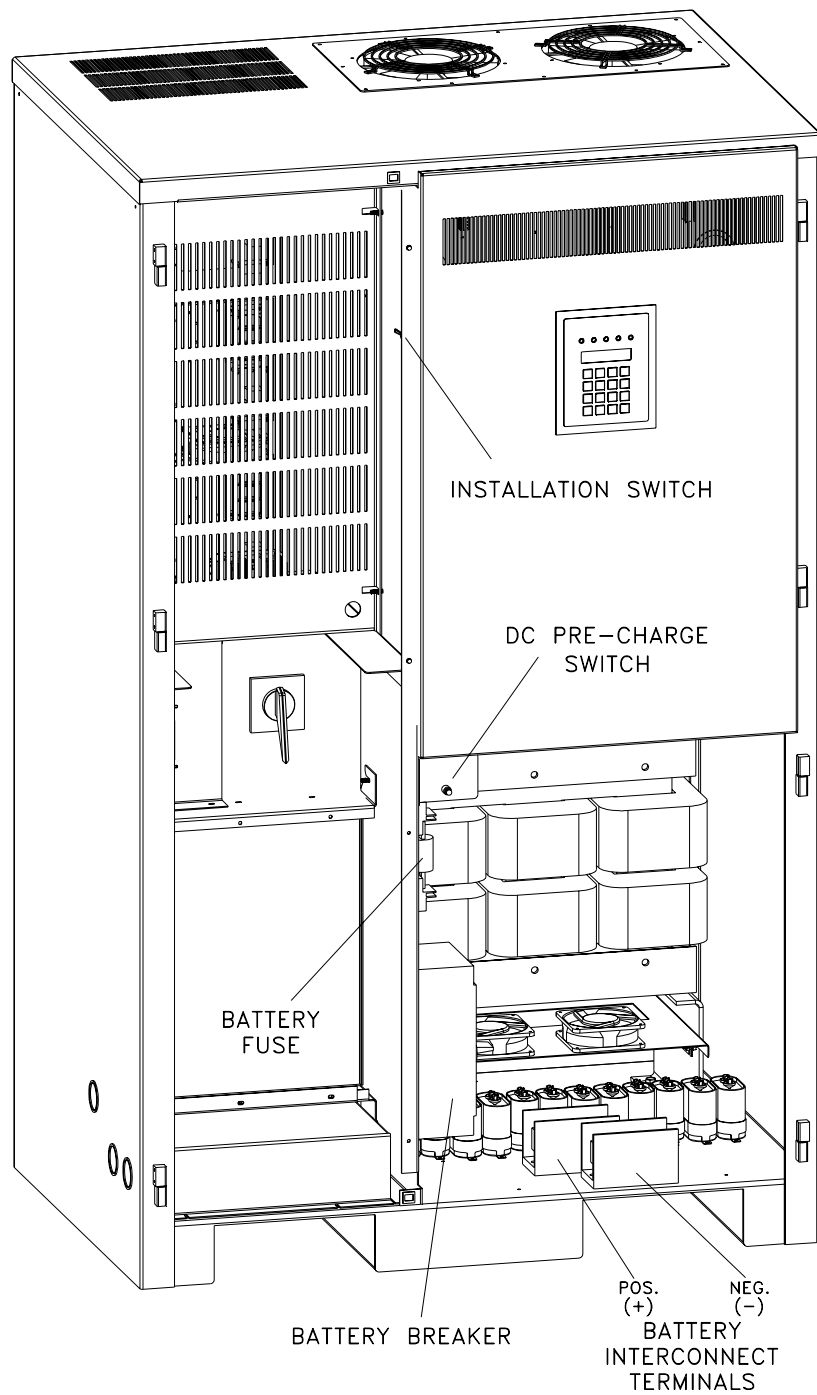

Figure 7.0 Battery Fuse, DC Pre-charge Switch & Installation Switch
2. Locate the DC Pre-charge Switch (S2) see figure 7.0; press it for five seconds; then, turn the battery breaker on inside the electronics cabinet.